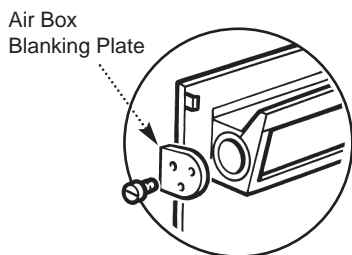

Fig. 46
1. Remove the left or right hand air box blanking plate, as appropriate, from the back plate air box by releasing the three screws (Fig 46).